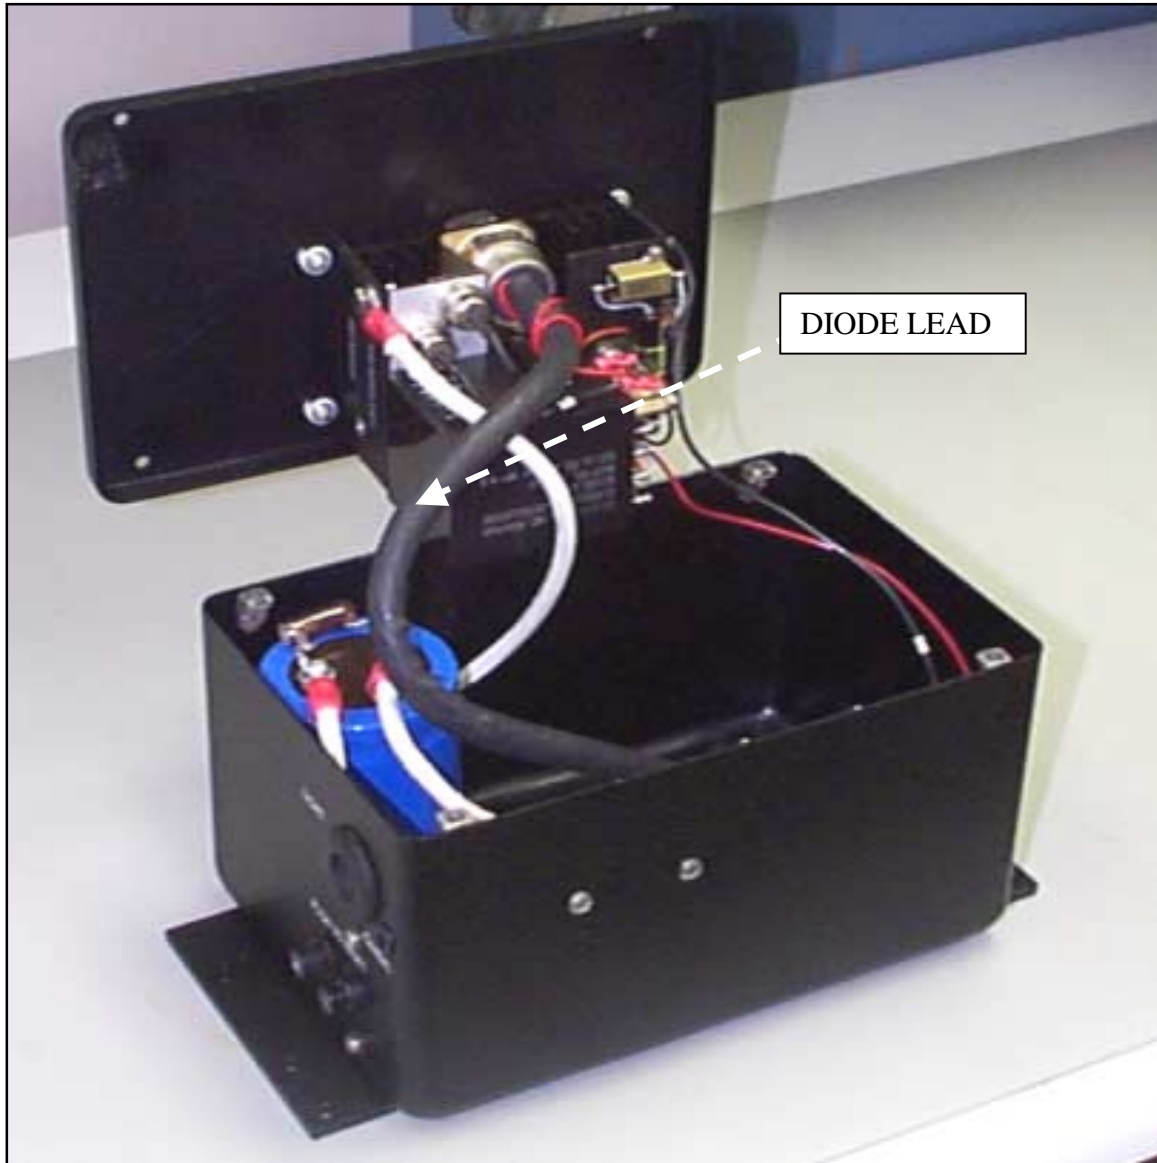

Figure 2
Any SX-16 Junction Box which incorporates a Booster assembly (P/N 020045) may be subject to electrical shorting due to broken insulation on the high current blocking diode. This diode can be readily identified by its heavy gauge braided wire which is insulated with heat-shrink tubing – See Figure 2. On page 4-4 in the Searchlight Operation and Maintenance Manual, the electrical schematic (drawing 020720) identifies this diode as CR1. This kit contains the hardware you must install to ensure continued reliable operation of your SX-16 Nightsun® Searchlight system.
4. Lift the cover and support it so that it is positioned as shown in Figure 2.
5. Identify diode CR1 and its attached wire, as shown in Figure 2. This wire will be insulated with heat-shrink tubing. Units built within the last year have a 1-piece diode lead, exactly as shown in Figure 2. Older units have a 2-piece diode lead, with a bolted connection in the middle.